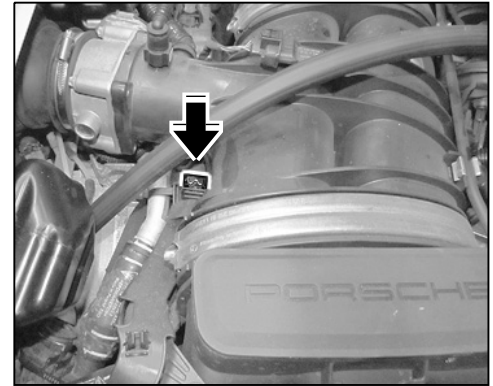

Figure 35
6.1 Expose wire harness for change-over valve ⇒ *Figure 35 -arrow-*.